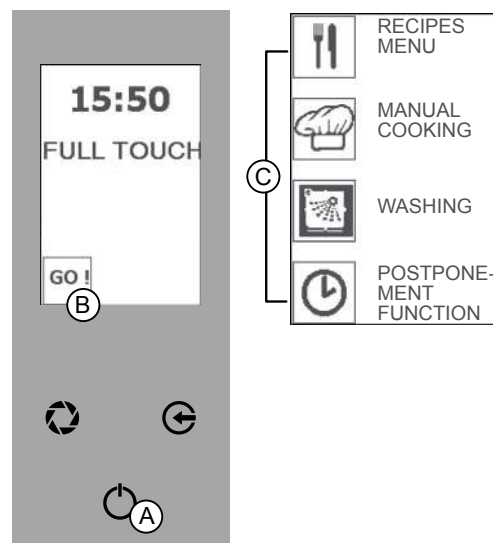

Fig.1
The "ENTER" key (Fig.1/A) can be selected to perform three different functions:
- STAND BY mode: display switched off and "ENTER" key lit up (Fig.1).
- "HOME PAGE" mode: display switched on, clock shown and "ENTER" key lit up (Fig.1).
- "MAIN MENU" MODE: functions shown (RECIPES MENU - MANUAL COOKING - WASHING - POSTPONEMENT FUNCTION - Fig.1/C).